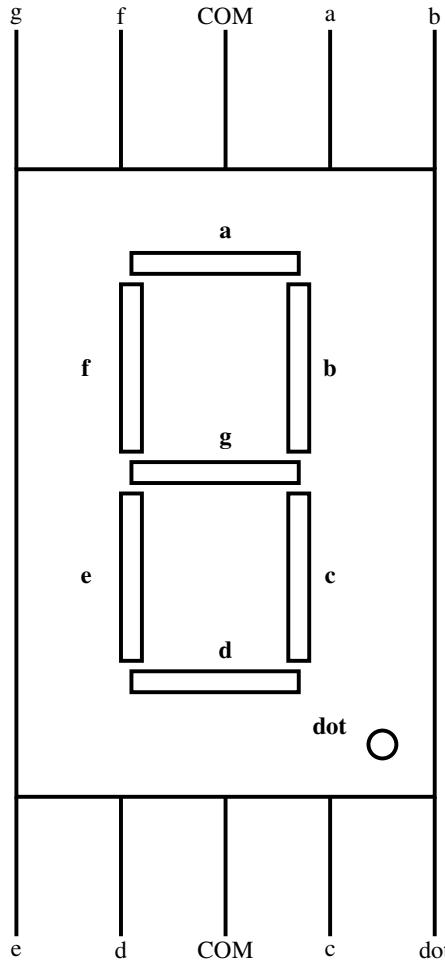
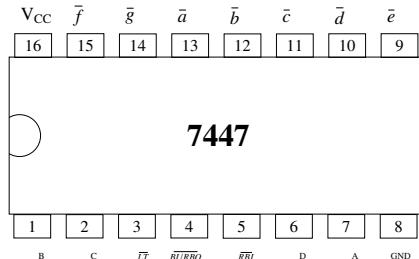

Fig. 2.2: Seven Segment pins
Fig. 3.1
2. Seven Segment Display: The seven segment display in Fig. 2.2 has eight pins, a, b, c, d, e, f, g and *dot* that take an active LOW input, i.e. the LED will glow only if the input is connected to ground. Each of these pins is connected to an LED segment. The *dot* pin is reserved for the · LED.
1. Make connections between the seven segment display in Fig. 2.2 and the 7447 IC in Fig. 3.1 as shown in Table 3.2